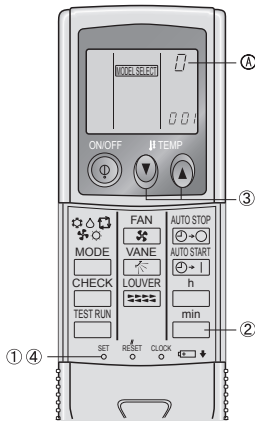

Fig. 6-7
6) Wireless remote controller pair number setting operation (Fig. 6-7)
① Press the SET button with something sharp at the end.